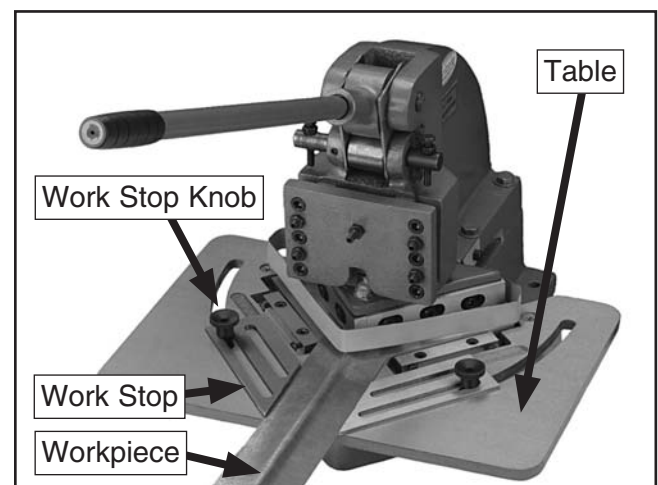

Figure 10. Work stops.
3. Position the workpiece on the work table so that the workpiece rests against the top blades (**Figure 10**).
4. Adjust the work stops as necessary to provide adequate support and proper alignment with the workpiece, then tighten the work stop knobs (**Figure 10**).